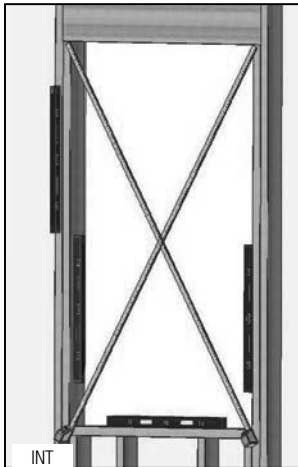

FIG. 4
- C) Verify the rough opening is flat, plumb, level and square. (Fig.4)
- D) Take diagonal measurements to check for square. (Fig. 4)